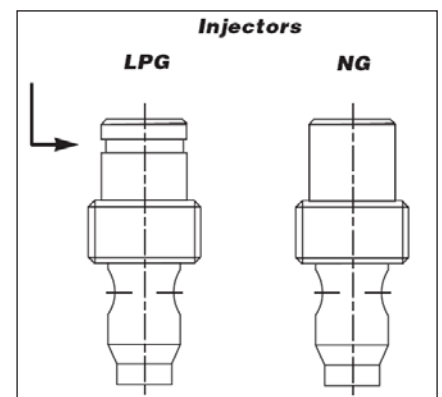

Figure 54: Identifying the Orifice.
8. Ensure that the pilot orifice you are about to install is the correct orifice. LP orifices have a groove cut around the top of the orifice. See Figure 54 for help to identify these parts. The orifice size is stamped into the orifice. The correct orifice sizes for the L965E/HZ965E are **LPG - 35** and **NG - 62**.